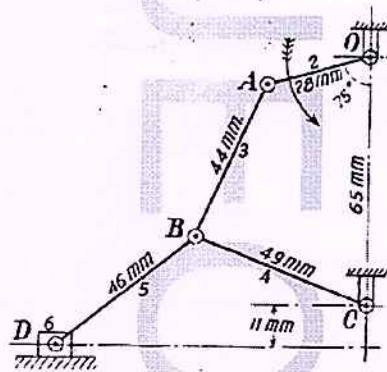

Figure 2
- 11 a) In Figure 2 the angular velocity of the crank OA is 600 rpm. Determine the linear velocity of the slider 6 and the angular velocity of the link 5, when the crank is inclined at an angle of 75° to the vertical.